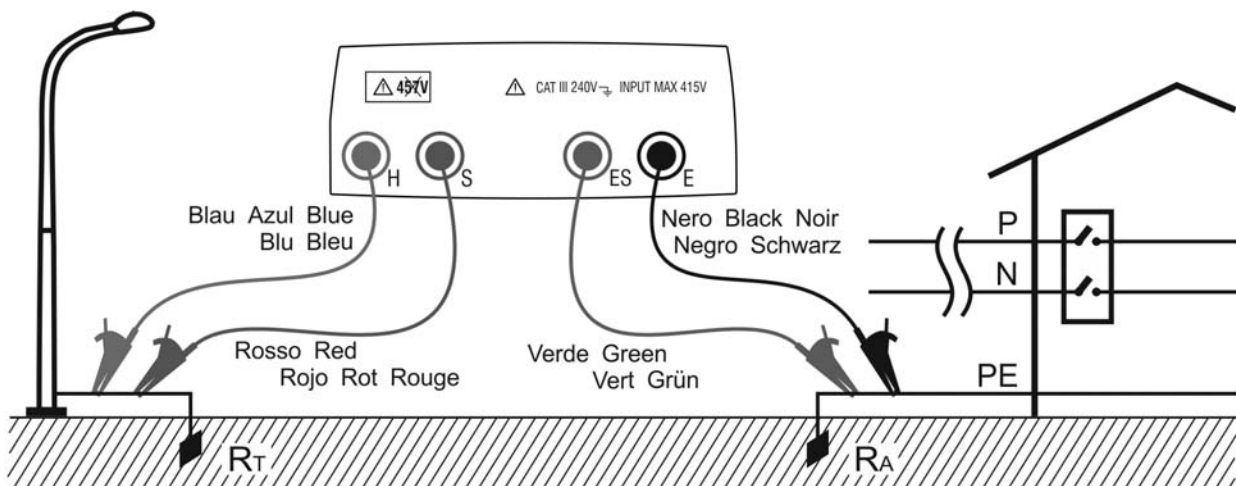

Fig. 4: Two-wire earth resistance measurement using an auxiliary rod
In Fig. 4 a lamp post is used as auxiliary rod, however any metal body driven into the ground can be used provided that the above mentioned requirements are met.
The instrument displays the sum value of $R_A + R_T$ as result (see Fig. 4 and Fig. 5). Therefore the measurement achieved is the closer to R_A (prospective value) the more negligible is the value R_T of the auxiliary rod with respect to R_A itself. In addition the measurement will be increased "for safety sake" by R_T , i.e. if $R_A + R_T$ results to be coordinated with protective conductors, R_A alone will be far more coordinated
6. Connect crocodiles to the auxiliary rods and to the installation under test (see Fig. 4 and Fig. 5)